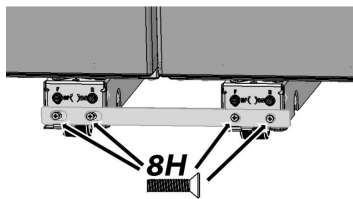

Fig. 14
15. Having the refrigerator/freezer standing side by side 1/2" apart, fasten a 9H bracket to the front of the Levelers (Fig. 14), keeping the left-side 8H screws loose.
- c. Fasten the four 8H screws (Fig. 14 and 15) through 2 front and back 9H brackets. You may need several adjustments for the center trim to be consistently flush and centered to the units.